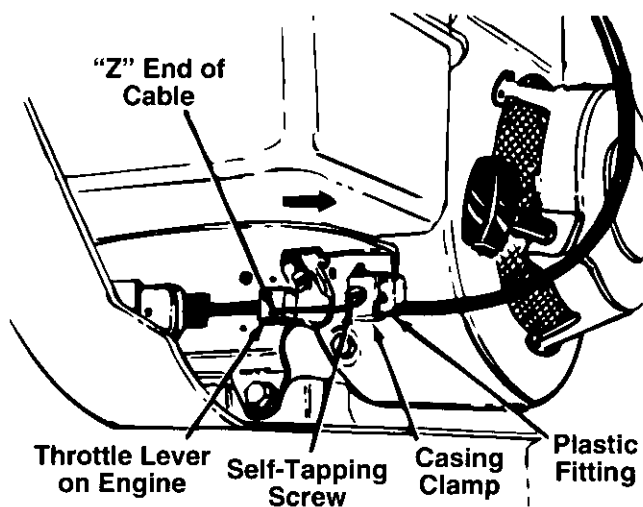

FIGURE 3.
2. Remove the cable clamp shown in figure 3 by removing the self-tapping screw.
3. Hook the "Z" end of the throttle control cable into the hole in the control lever on the engine as shown in figure 3.
5. Pull the throttle control cable so the throttle lever on the engine is in the full open position (all the way toward the right side of the unit) as shown in figure 3. Tighten the self-tapping screw to secure the cable in this position.